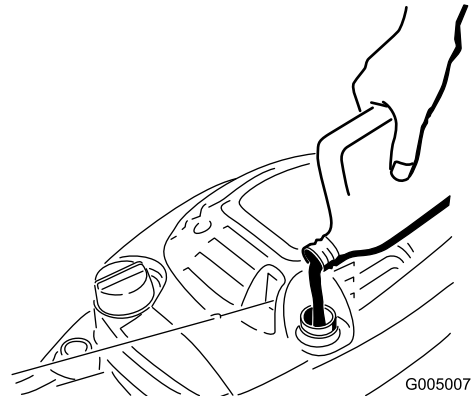

Figure 23
4. Slowly pour oil into the oil fill tube until the oil level reaches the **Full** line on the dipstick (Figure 23). **Do not overfill.** (Max. fill: 20 oz., type: SAE 30W detergent oil with an API service classification of SF, SG, SH, SJ, SL, or higher.)